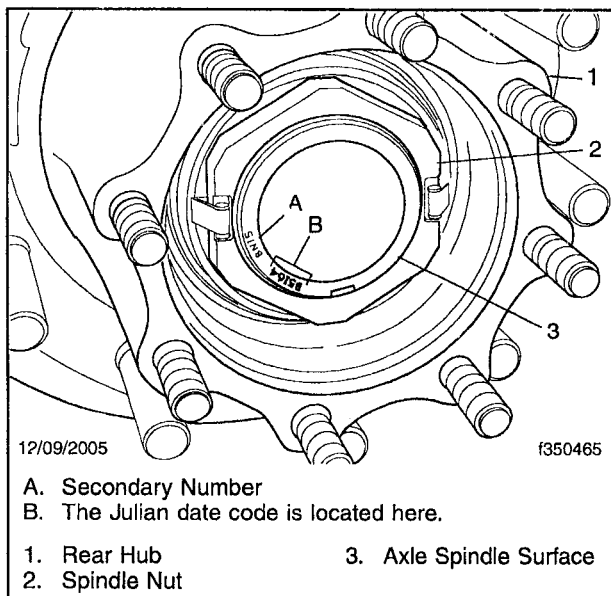

Fig. 3, Julian Date Code and Secondary Number Locations
8. Check the surface of the axle spindle for the Julian date code. See **Fig. 3**.